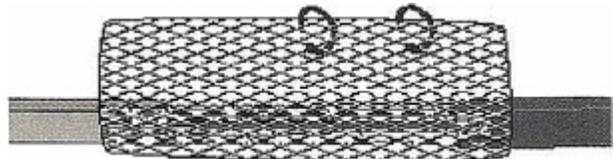

Figure 3
4. Center the inner liner around the splice bundle and overlap the ends of the mesh at least 1/2-inch. Secure the mesh with the supplied tie wraps. Refer to Figure 3.